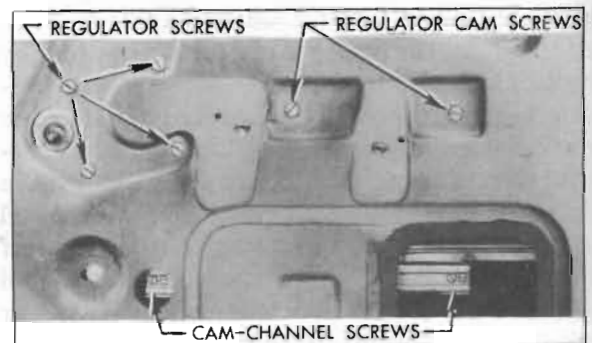

Figure 13-29—Window Regulator and Cam Attaching Screws
3. With glass in lowered position, remove screws attaching the cam to lower sash channel. See figure 13-29.
If glass tilts edgewise, adjust the regulator cam (fig. 13-29) at rear end where the attaching screw hole is slotted vertically. Raise rear end of cam to throw travel of glass forward or lower rear end to throw travel of glass rearward.
2. On *Series 40 front door only*, remove door window glass (subpar. e above). On all other doors remove screws attaching the cam to lower sash channel (fig. 13-29) then raise glass to closed position and support it there.